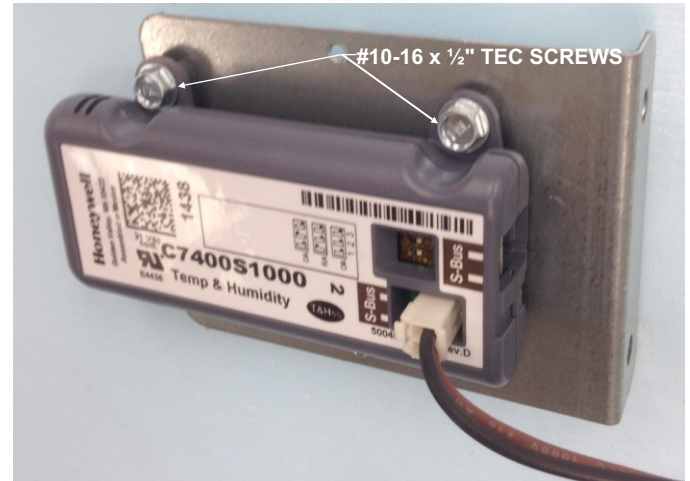

Figure 2: Mounting Sensor on 3 to 5 and 6 Ton Economizer
2. Mount the sensor to the mounting bracket (refer to Figure 2 for the proper bracket orientation) using the two #10-16 x ½" TEC screws (provided).